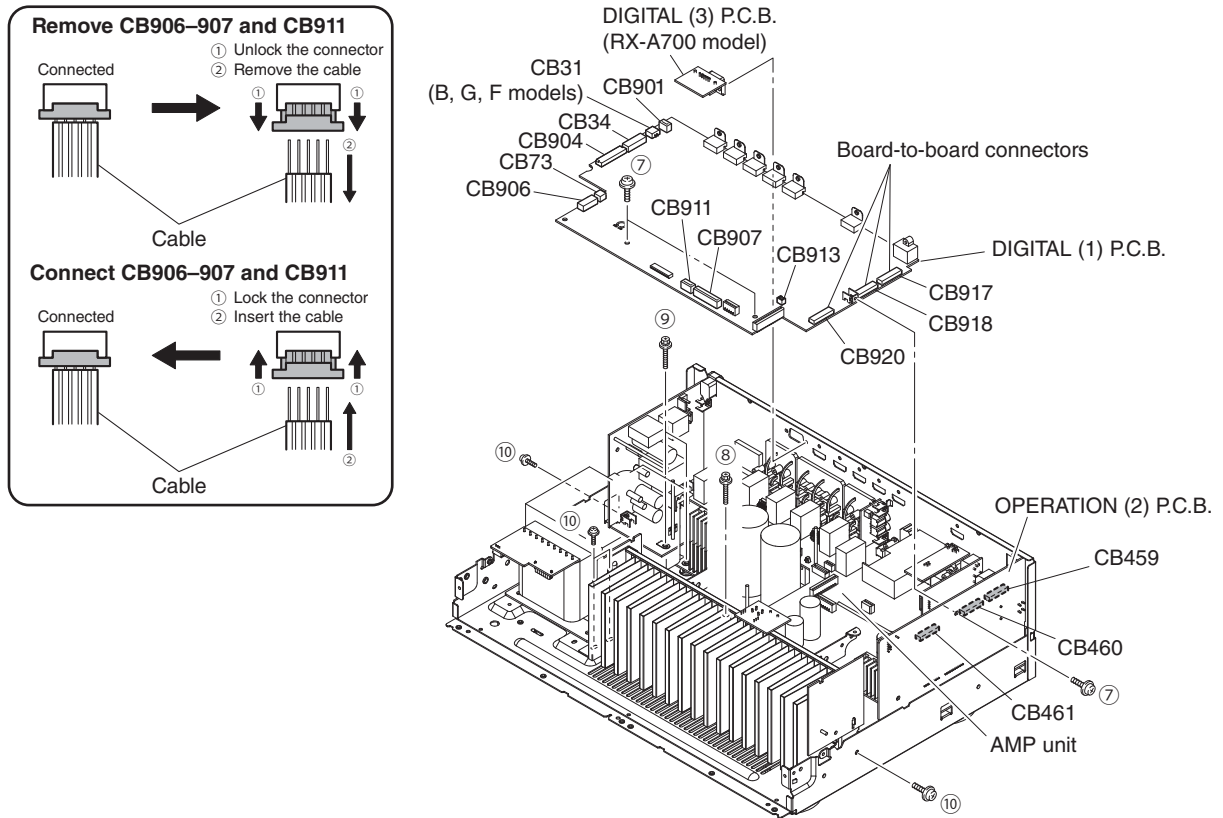
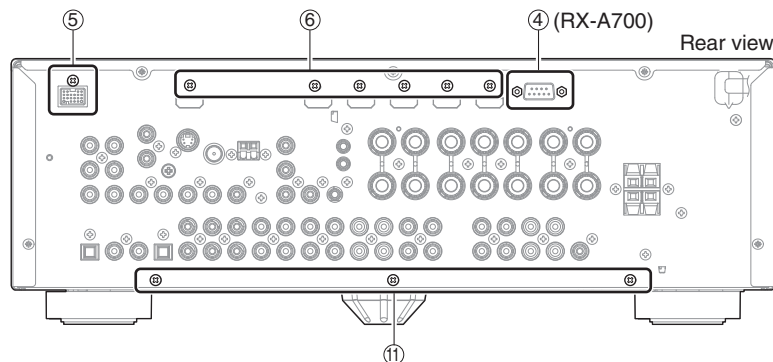

Fig. 2
Fig. 3
- a. Remove 2 jack screws (④). (Fig. 3)
- b. Remove CB901 and remove the DIGITAL (3) P.C.B. (Fig. 2)
4. Removal of DIGITAL (1) P.C.B.
- a. Remove screw (⑤) and 6 screws (⑥). (Fig. 3)
- b. Remove 3 screws. (⑦). (Fig. 2)
- c. Remove CB34, CB73, CB904, CB913 and CB31 (B, G, F models). (Fig. 2)
- d. Unlock and remove CB906-907 and CB911. (Fig. 2)
- e. Remove the DIGITAL P.C.B. which is connected directly to the OPERATION (2) P.C.B. with board-to-board connectors. (Fig. 2)
- a. Remove screw (⑧), 2 screws (⑨) and 4 screws (⑩). (Fig. 2)
- b. Remove 3 screws (⑪). (Fig. 3)
- c. Remove the amp unit. (Fig. 2)
- c. Remove screw (⑧), 2 screws (⑨) and 5 screws (⑩). (Fig. 2)
- d. Remove 3 screws (⑩). (Fig. 3)